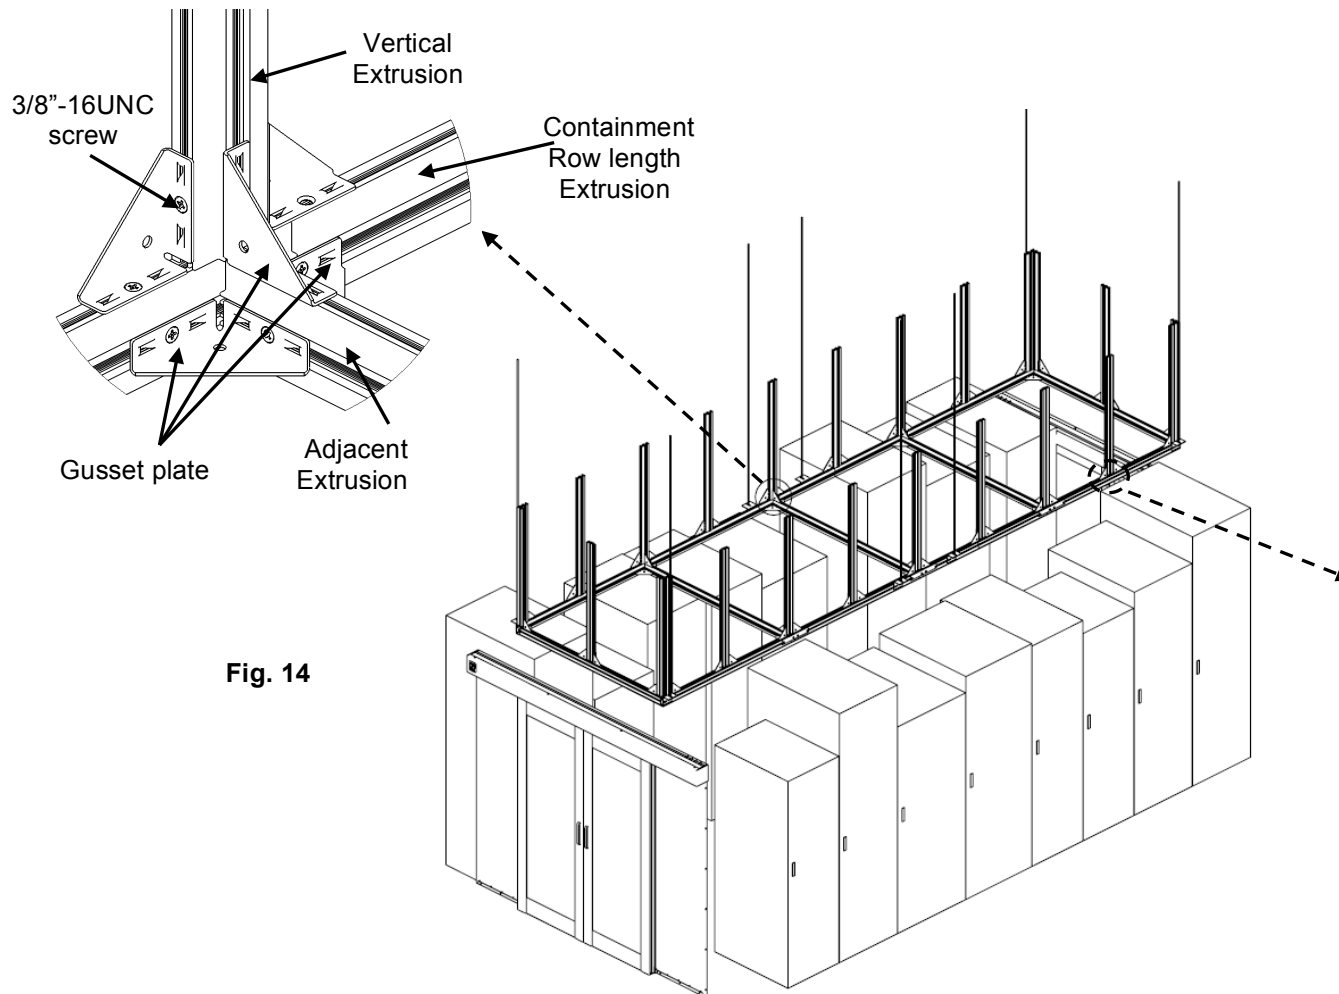

Fig. 14
17. Each adjacent extrusion should have minimum three gusset plate with 3/8"-16UNC screw. (Fig.14).